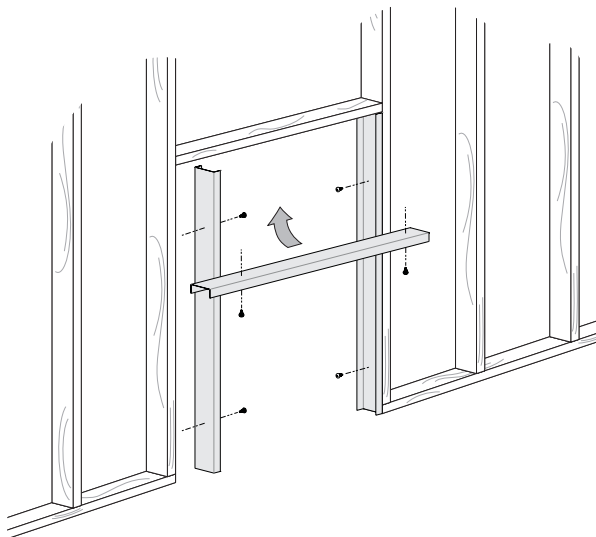

Figure 7
1. Secure the metal studs to the frame using six #10 pan-head screws as shown in Figure 7. The channel of the studs should face as shown in Figure 7.